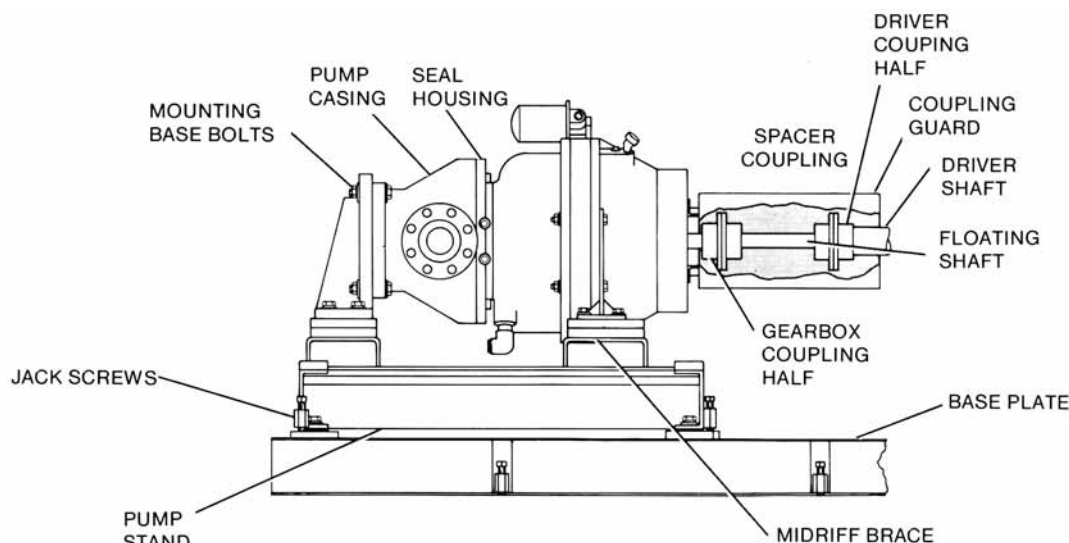

Figure 17. Horizontal Stand Assembly
D. UNITS WITH HORIZONTAL STANDS (Figure 17)
- (1) Install stand per Paragraph 8 (page 4). Tighten foundation bolts prior to coupling installation and alignment.
- (2) Make sure that the driver mounting pads are free of paint, weld splatter, etc. Set the driver on the pads, but do not bolt down.
- (3) Coupling alignment should be done prior to connecting suction and discharge piping. It is normally good practice to leave a section of piping on the suction and discharge of the pump casing to be fabricated after alignment has been completed. A recheck of alignment should be done after piping is installed.
- (4) Alignment should be checked when equipment is at normal operating temperature to verify that alignment is